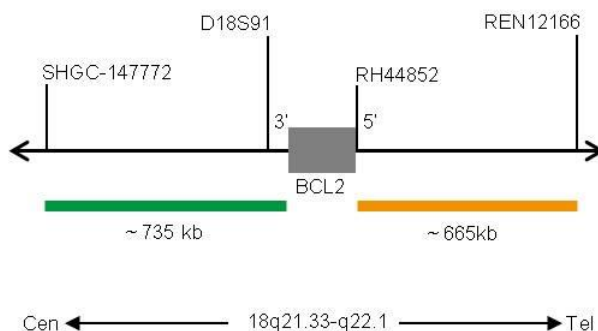
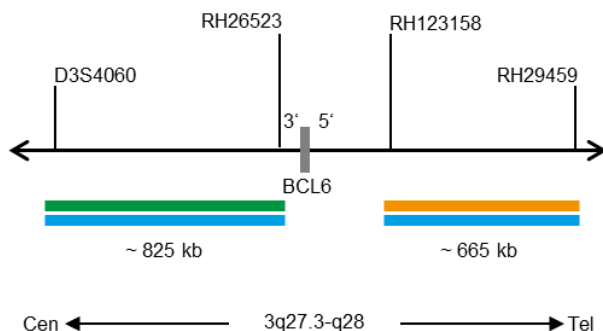

Fig. 1: SPEC BCL2 Probe map (not to scale)
Fig. 2: SPEC BCL6 Probe map (not to scale)
- ZyGreen (excitation 503 nm/emission 528 nm) labeled polynucleotides (~10.0 ng/μl), which target sequences mapping in 18q21.33* (chr18:60,046,152-60,779,138) proximal to the BCL2 breakpoint region and in 3q27.3* (chr3:186,578,337-187,403,834) proximal to the BCL6 breakpoint region (see Fig. 1 & Fig. 2)
- ZyOrange (excitation 547 nm/emission at 572 nm) labeled polynucleotides (~2.5 ng/μl), which target sequences mapping in 18q21.33-q22.1* (chr18:60,994,528-61,658,503) distal to the BCL2 breakpoint region and in 3q27.3-q28* (chr3:187,744,962-188,411,425) distal to the BCL6 breakpoint region (see Fig. 1 & Fig. 2)
- ZyBlue (excitation 418 nm/emission 467 nm) labeled polynucleotides, (~70.0 ng/μl), which target sequences mapping in 3q27.3* (chr3:186,578,337-187,403,834) proximal to the BCL6 breakpoint region co-localizing with the green-labeled BCL6 polynucleotides and in 3q27.3-q28* (chr3:187,744,962-188,411,425) distal to the BCL6 breakpoint region co-localizing with the orange-labeled BCL6 polynucleotides (see Fig. 2)